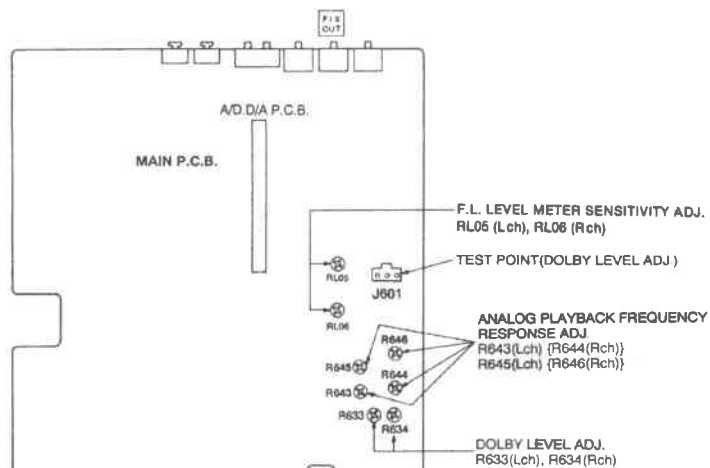

Fig. 25
- (1) While playing back the Dolby level tape (RFKZ0038), adjust the voltage at test point J601 to 338mV using R633 (Lch) and R634 (Rch) (See Fig. 25).
- Play the 1kHz and 12.5kHz test tones on the ACC Test tape (QZZCFM) and adjust potentiometers R643 (Lch) and R644 (Rch) until the FIXED OUT output level at 12.5kHz is within $0 \pm 0/-1$ dB from that at 1kHz. (See Fig. 25)